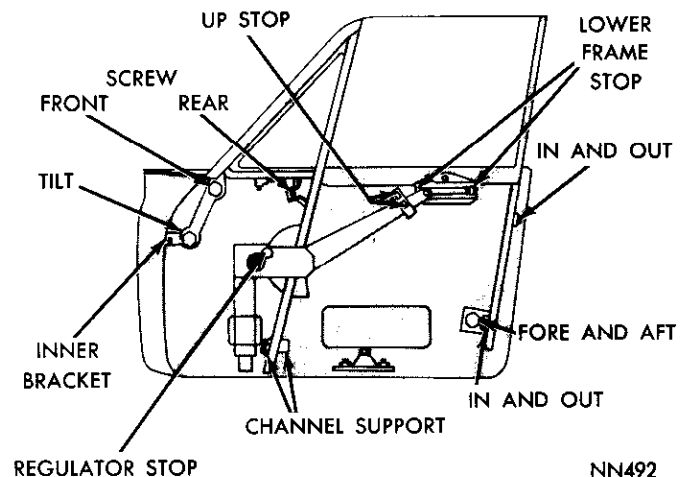

Fig. 43—Front Door Glass Adjustments—Hardtop—Convertible
- (1) Open door and lower glass 1/3 way.
- (2) Adjust rear run channel upper attachment (Fig. 43) until window is centered between inner and outer belt line weatherstrips and tighten nut.
- (3) Close door, raise window seating top of glass and front of vent wing fully against and parallel to roof rail weatherstrip.
- (4) Tighten vent wing belt line screws and nut on front leg of vent wing.